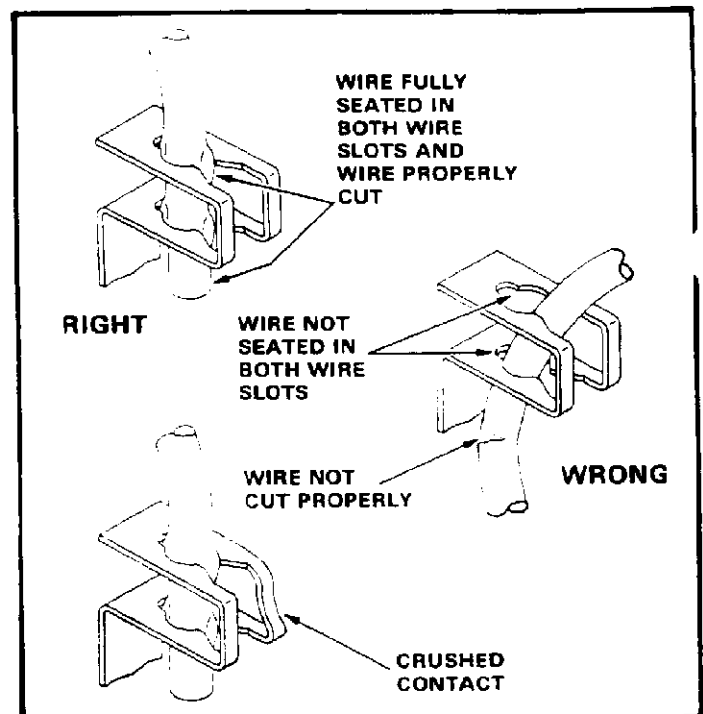

Fig. 3
4. INSPECTION OF TERMINATIONS (Figure 3)